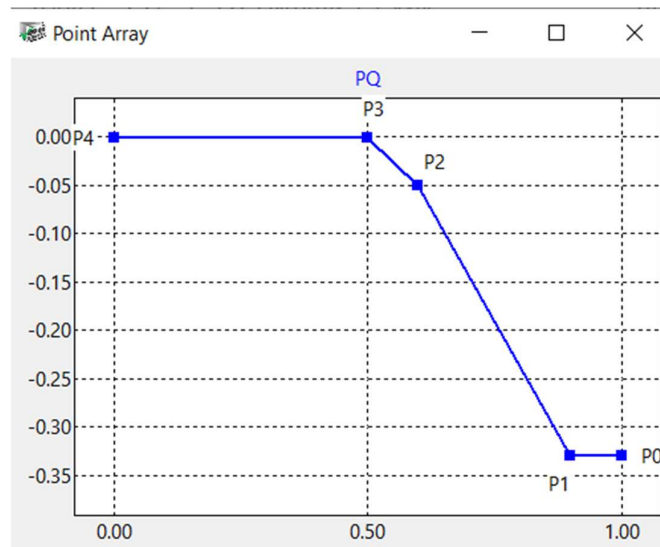

Figure 9 – Example of Q(P) characteristic.
When selected (VDE\_Ctrl\_ModEna = 4), the function injects reactive power in response to varying active power levels. This function has its own point array similar to Table 7 except that the parameter names start with “PQ\_” instead of FW22. See section 8.2.1 for an explanation of point arrays. An example of a Q(P) function is shown in Figure 9 (refer to Appendix A: Direction definition of P and Q).